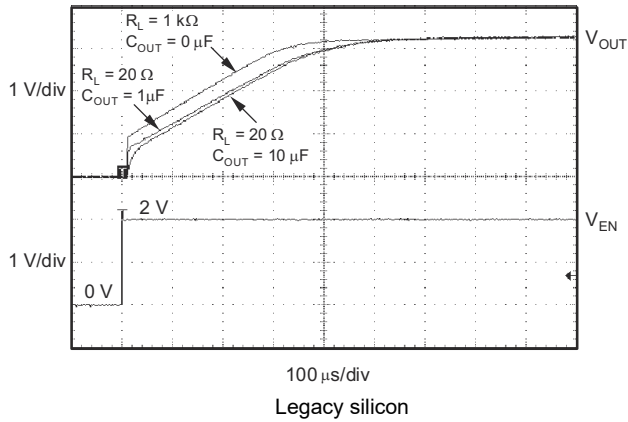

图 5-39. TPS73233 Turn-On Response
The enable pin (EN) is active high and is compatible with standard TTL-CMOS levels. A  $V_{EN}$  below 0.5V (maximum) turns the regulator off and drops the GND pin current to approximately 10nA. When EN is used to shut down the regulator, all charge is removed from the pass transistor gate. A  $V_{EN}$  above 1.7V (minimum) turns the regulator on and the output ramps back up to a regulated  $V_{OUT}$  (see 图 5-39).